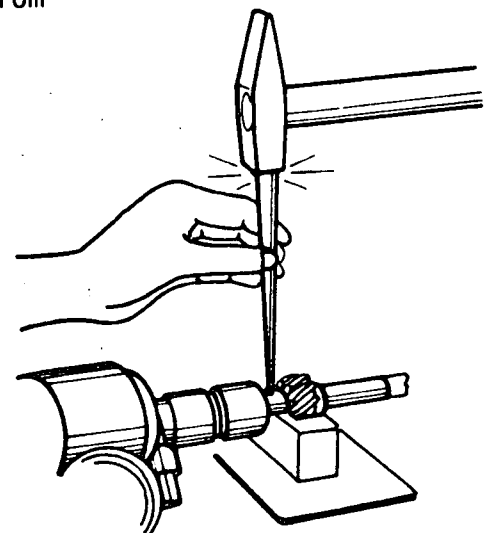

Fig. 1
- a) Remove the bolt from the pinion of the distributor and remove the pinion (fig. 1).